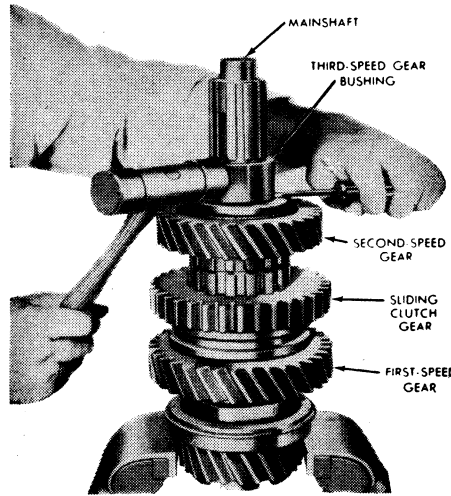

Fig. 16 Gaining access to third speed gear bushing key
- Pry third gear bushing upward on shaft to expose Woodruff key, Fig. 16, and remove key.